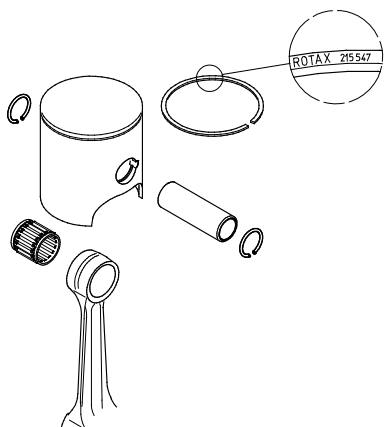

Fig. 32 (K00028, K00336)
- ➔ Place the installation tool with the cutout of the circlip down on the piston (1).
- ➔ Counter the piston with your hand and press the circlip into it. See Fig. 32.